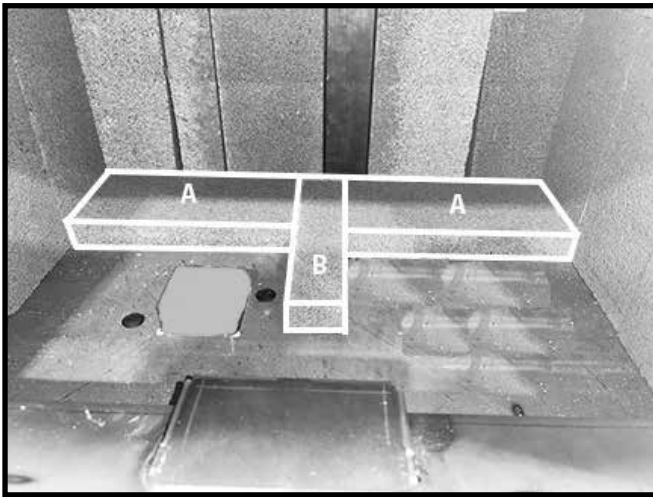

Figure 29: Back row floor A and B bricks.
6. On the firebox floor, place an "A" brick in each corner and insert one "B" brick as shown in Figure 29.